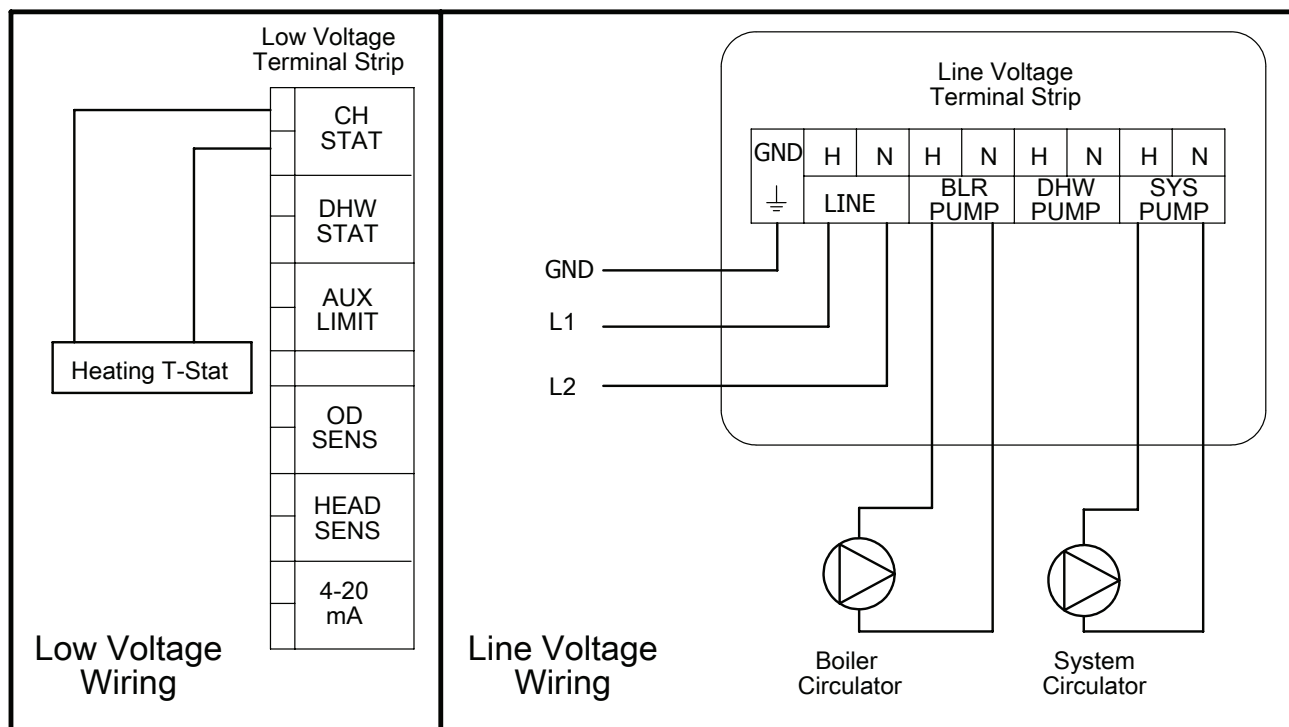

FIGURE 7.1: Wiring BB100H to Boiler equipped with Sola
2) Connecting BB100H to Sola Equipped boilers (Figure 7.1):